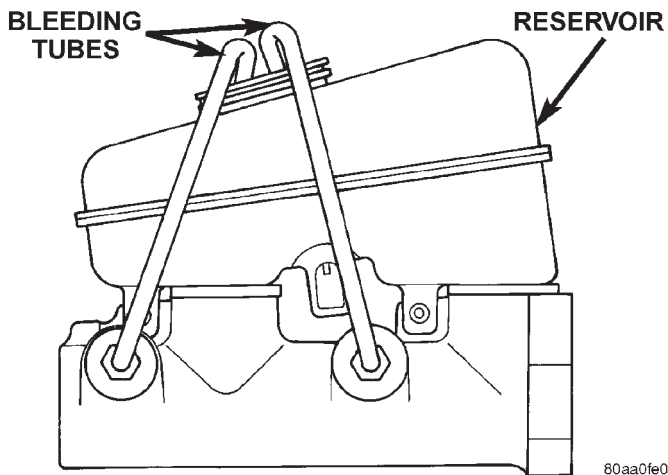

Fig. 12 Master Cylinder Bleeding
- (1) Mount master cylinder in vise.
- (2) Attach bleed tubes to cylinder outlet ports. Then position each tube end into the reservoir (Fig. 12).
- (3) Fill reservoir with fresh brake fluid.
- (4) Press cylinder pistons inward with wood dowel. Then release pistons and allow them to return under spring pressure. Continue bleeding operations until air bubbles are no longer visible in fluid.